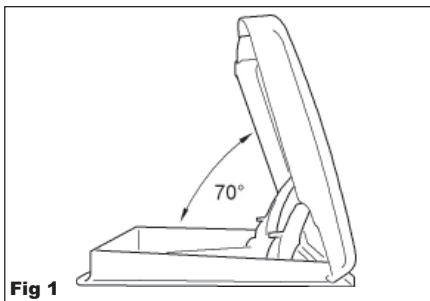

**Fig 3**
- (ii) Whilst depressed, slide the bar to the desired position and locate into the stops provided (Fig 3).
To close the rooflight, pull the operating bar down, unlocking the mechanism. Now, move the bar backwards (against the direction of travel) and the rooflight will close; all the time holding the bar down. Once you reach the end position the hooks will lock the rooflight automatically. Release the operating bar and the rooflight will remain closed (Fig 3).